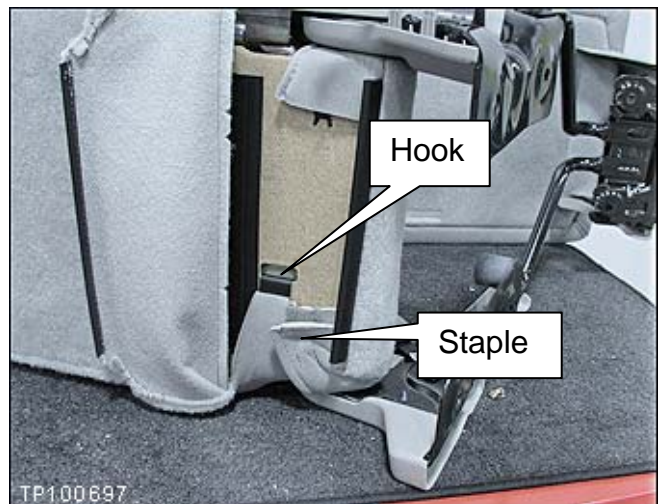

Figure 9
5. Unhook the seat trim shown in Figure 9.
6. Remove the staple shown in Figure 9.